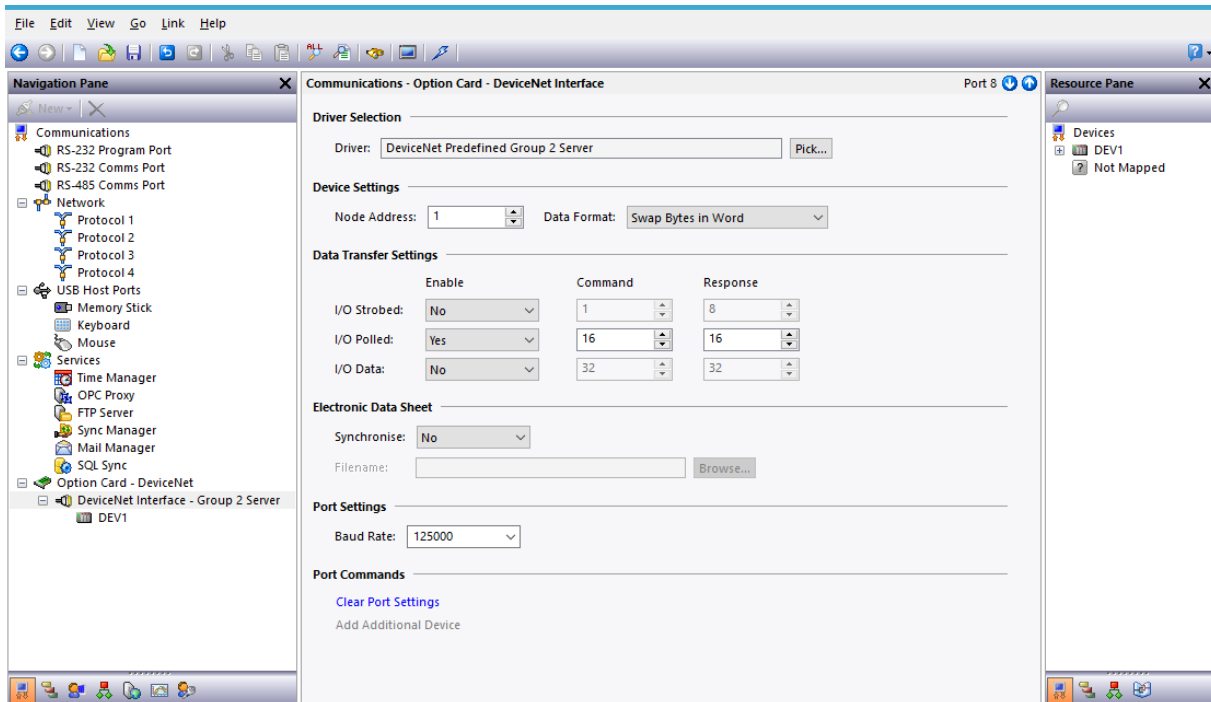

Figure 5.
3. Select *DeviceNet Predefined Group 2 Server* and click on the *OK* button; Figure 5 appears.
- Referring to Figure 5, set the appropriate Node Address, I/O Poll Size, and Baud Rate.